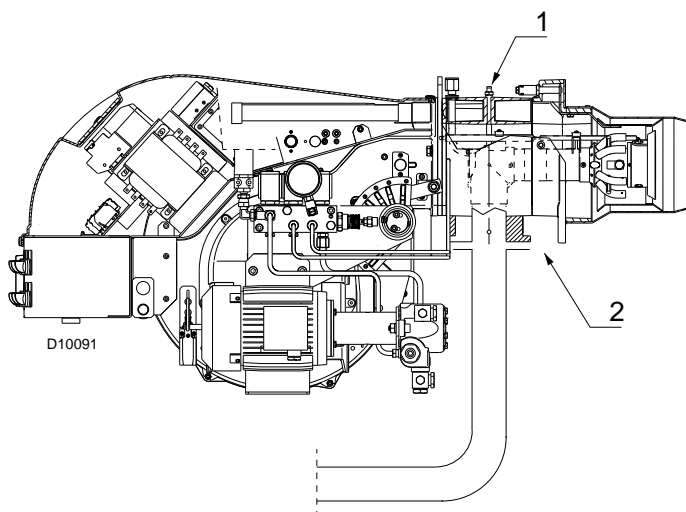

Fig. 26
Gas manifold pressure measured at test point 1)(Fig. 26), with:
- subtract the combustion chamber pressure from the gas pressure measured at test point 1)(Fig. 26).
- Gas pressure at test point 1)(Fig. 26) = 4.41" WC